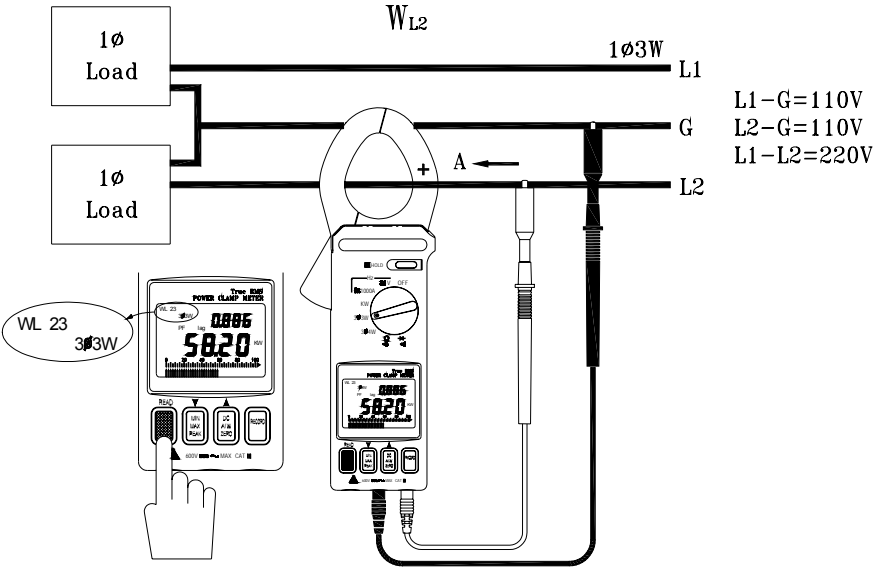

Figure 12
B. Measure W_{TS} or W_{L2G} (refer to figure 12).